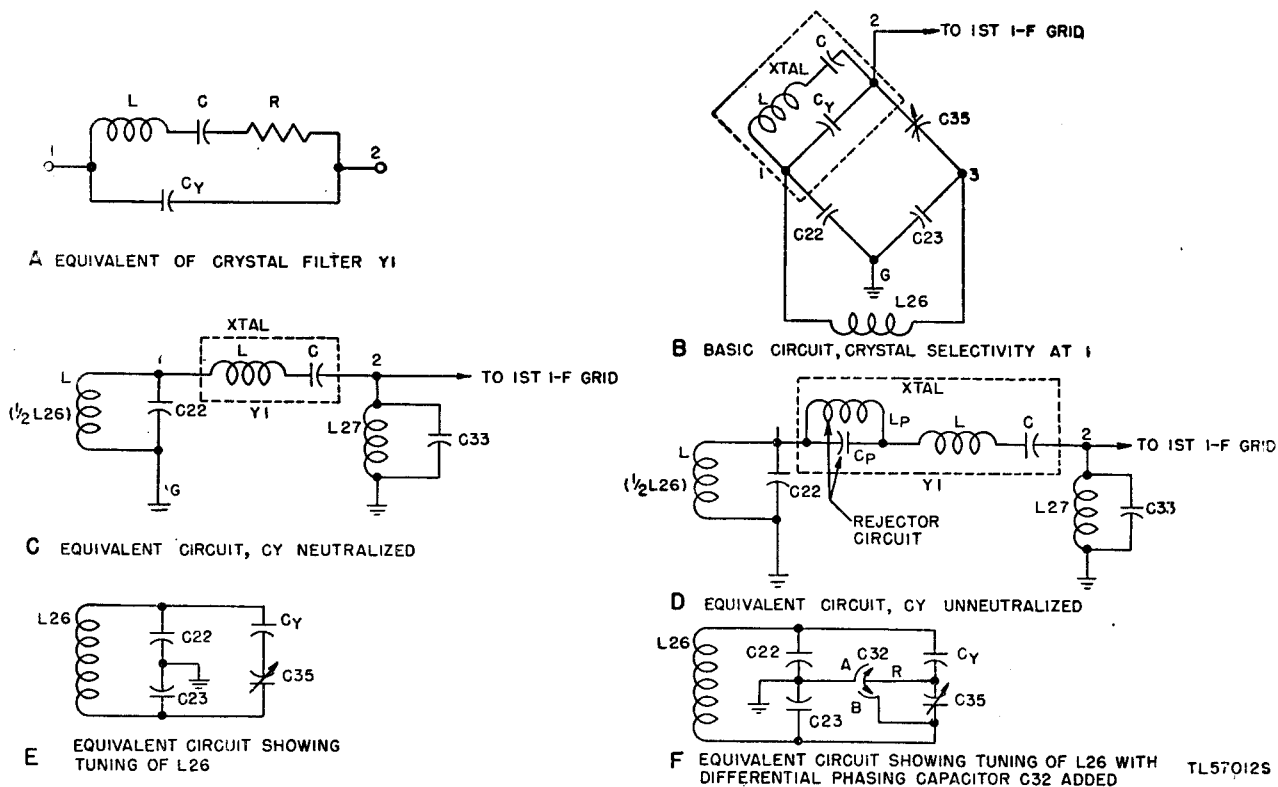

Figure 28. Radio Receiver BC-779-B, functional and equivalent diagrams of crystal filter circuit.
## 61. Crystal Filter (fig. 28)
a. EQUIVALENT CRYSTAL CIRCUIT. The equivalent electrical circuit of a crystal is shown in "A," figure 28. The circuit, and hence the crystal, are resonant at two frequencies: The frequency at which the reactance of L is equal to the reactance of C (series resonance), and the frequency at which the effective reactance of L-C (in series) is *inductive* and *equal* to the capacitive reactance of  $C_Y$  (parallel resonance). At the series-resonant frequency the crystal acts as a low-impedance connection between 1 and 2. At the parallel-resonant frequency the crystal acts as a high impedance between 1 and 2.
b. BASIC FILTER CIRCUIT ("B," fig. 28). Capacitors C22 and C23 (100 mmF each) are connected in series across the secondary of i-f input transformer L26, and their junction is grounded to provide a midpoint connection in the resonant circuit L26-C22-C23. Consequently, the capacitor voltages are always of equal amplitude but 180° out of phase. Phasing capacitor C35 (1.5 to 5 mmF) is connected between 3 and 2, and the crystal is connected between 1 and 2.
c. NEUTRALIZATION OF  $C_Y$ . Capacitors C22, C23, C35, and  $C_Y$  (the capacity between the crystal holder plates) form a capacity bridge; the input is applied to 1 and 3, the output is taken from 2 and G. When capacitor C35 is adjusted so that its capacitance is equal to that of  $C_Y$ , the voltage coupled from 3 through C35 to 2 is equal and opposite to the voltage coupled from 1 through  $C_Y$  to 2. Under this condition  $C_Y$  is neutralized and the crystal acts as a series-resonant circuit only ("C," fig. 28). Since the crystal is resonant at the intermediate frequency, there is (in effect) a direct connection between 1 and 2. As indicated in "C," figure 28, only the voltage across C22 (one-half the secondary voltage) is applied through the crystal to the grid circuit of the first i-f stage.
tance of  $L-C$  and the capacitive reactance of  $C_Y$ . For simplicity the parallel-resonant circuit is denoted as rejector circuit  $L_P C_P$  in "D," figure 28.  $L_P$  and  $C_P$  denote the effective inductance and capacitance at the parallel-resonant frequency.  $L$  and  $C$  indicate the effective inductance and capacitance of the crystal at the series-resonant frequency, in this case the 465-kc i.f. In other words, unless  $C_Y$  is neutralized, the crystal acts simultaneously as a parallel- and series-resonant circuit. The parallel-resonant circuit  $L_P C_P$  has no effect on the 465-kc i.f. but presents a high impedance to, and therefore rejects, the frequency to which  $L_P C_P$  is resonant.  $L$  and  $C$  present extremely low impedance to the 465-kc i-f signal voltage and high impedance to voltages at different frequencies. *With underneutralization the resonant frequency of  $L_P C_P$  is higher than 465 kc.*
f. **CAPACITOR C32.** Capacitor  $C_{35}$ , in series with capacitance  $C_Y$ , is across  $L_{26}$  and affects its tuning ("E," fig. 28). To avoid the detuning effect and to enable shifting the rejection frequency to either side of the i.f., differential PHASING capacitor  $C_{32}$  ("F," fig. 28) is used in the radio receiver. Stator sections A and B are so arranged that, as rotor R is turned out of one stator into the other, the capacitance of the first *decreases* by the same amount that the capacitance of the second *increases*. Thus, whether the rotor is entirely engaged in stator A, is at a midpoint, or is entirely in stator B, the effective capacitance across A-B, and therefore across  $L_{26}$ , remains constant. Assume that  $C_{32}$ , the PHASING capacitor, is set at the arrow position of the PHASING control on the front panel and
(2) *CRYSTAL SELECTIVITY switch at 1.* When CRYSTAL SELECTIVITY switch SW7 is placed at 1, the short is removed from the crystal. If the secondary of L26 and the parallel-resonant grid circuit, L27-C33, are tuned to 465 kc, each is the equivalent of a high resistance in series with the equivalent series-resonant circuit of the crystal ("C," fig. 28). Consequently, the Q and therefore the selectivity of the series-resonant (crystal) filter circuit is reduced, and the bandwidth is several kilocycles wider than that of the crystal alone.